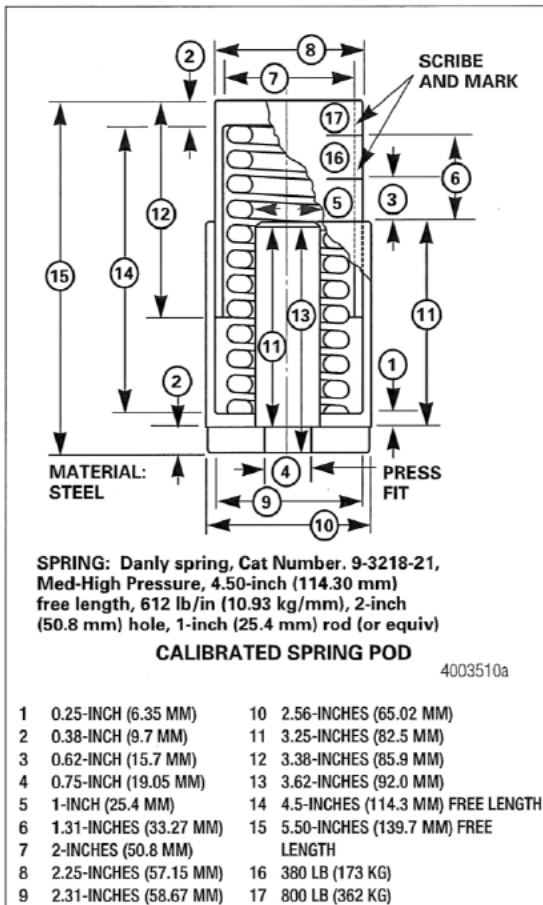
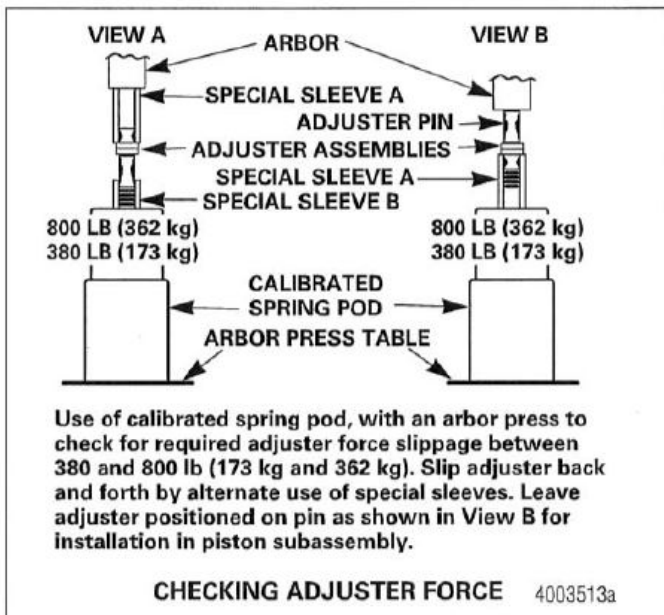

Figure 4.2
Figure 4.5
2. See Figure 4.2 and Figure 4.3 for recommended tools needed to perform the grip force test.
**Note:** The Calibrate Spring Pod (Figure 4.2) is not needed if the press has a gauge capable of reading up to 800lbs of force.
To obtain adjuster force measurements of the adjuster subassemblies installed onto the adjuster pin, it is necessary to have either a force-calibrated hydraulic shop press, or a calibrated spring pod, Figure 4.2, available for use with a standard arbor press. Obtain force measurements as illustrated in Figure 4.5.
1. Place the spring pod on the arbor press table. Use both special sleeves, Figure 5.3, as shown in Views A and B of Figure 4.5 to slip the adjuster back and forth several times on the adjuster pin.
3. If slippage occurs between the specified force limits, slip the adjuster to position on the pin as shown in Figure 4.5, View B, and reinstall it into the piston subassembly.